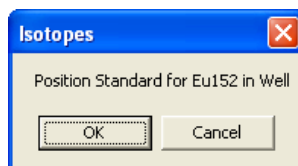

Figure 6-13
- Next, the screen appears as shown in Figure 6-13, prompting you to measure the isotope selected for efficiency measurement.